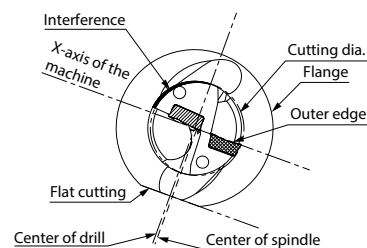

Fig. 4 Excessive offset (For smaller hole diameter)
1. Align the drill with the outer insert face parallel to the X-axis of the tool turret. (Fig. 4)
Be sure not to make the hole diameter smaller than the drill diameter by 0.2 mm or more. Otherwise, the toolholder will interfere with the drilled hole. (Fig. 4)